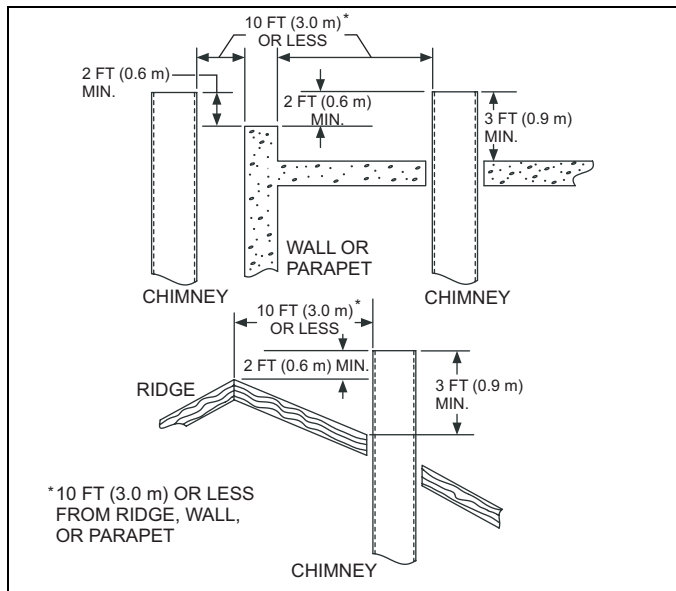

FIGURE 18: Vent Termination 10 ft. (3.0 m) or less
Connect the control as shown in Figure 18.
3. Install a separate 24V relay as shown in Figure 18. Use of this relay is required, as it ensures that the transformers of the two furnaces are isolated, thus preventing the possibility of any safety devices being bypassed.